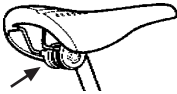

Fig. 3 Loosen saddle clamping bolts to adjust saddle position.
b. Front and back adjustment. Many bicycles have saddles with adjustable clamps. If your saddle has an adjustable clamp (see Fig. 3): loosen the saddle clamping mechanism and slide the saddle back or forward on its rails. Start with the saddle clamped in about the middle, then adjust forward or back until you find the position which is most comfortable for you. Then, retighten the saddle clamping mechanism tight enough so that you cannot move or jiggle the saddle.
c. Saddle tilt adjustment. Most people prefer a horizontal saddle; but some riders prefer to have the saddle nose tilted up just a little, and others prefer it to be tilted down just a little. Saddles with adjustable clamps (Fig. 3) can have their tilt adjusted by loosening the saddle clamping mechanism, tilting the saddle to the desired position, and retightening the saddle clamping mechanism tight enough so that you cannot move or jiggle the saddle.